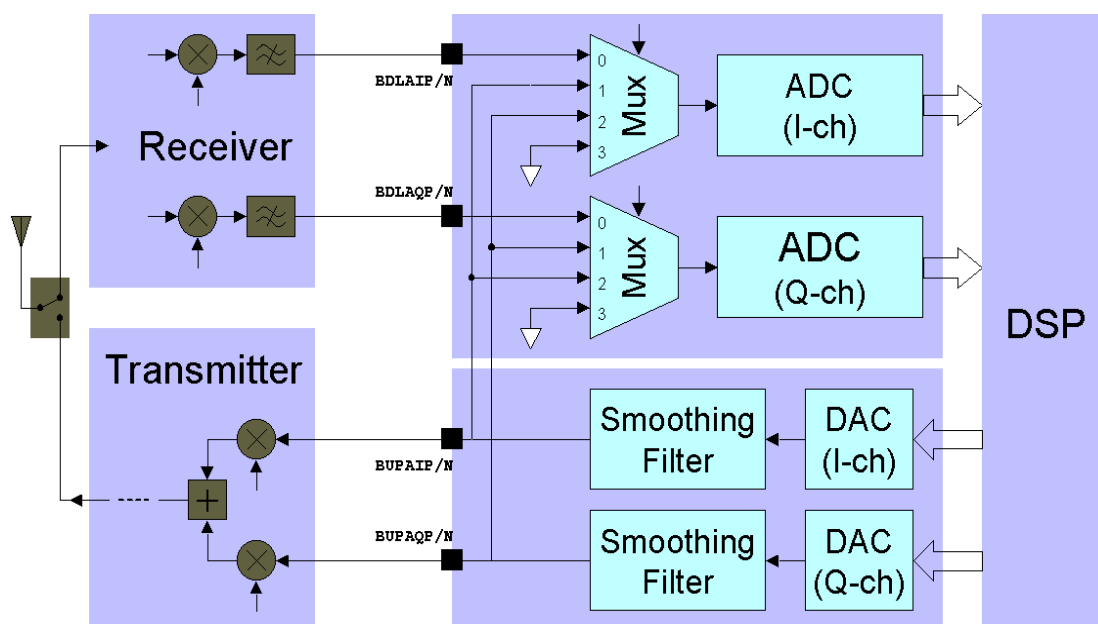

Figure 150 Base-band A/D and D/A Offset and Gain Calibration
The base-band downlink receiver (RX), together with the base-band uplink transmitter (TX) introduced in the next section, provides necessary analog hardware for DSP algorithm to correct the mismatch and offset error. The connection for measurement of both RX/TX mismatch and gain error is shown in **Figure 150**, and the corresponding calibration procedure is described below.